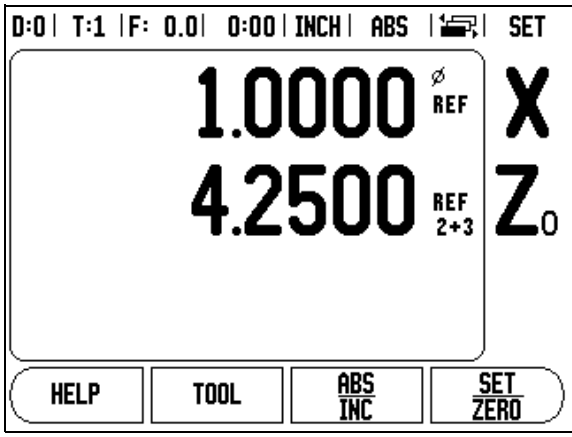

Fig. II.4 Enabling Z Coupling
- Press the numeric keys associated with the encoder input on the back of the unit. Press the **+** or **-** soft keys to couple a second input with the first. The input numbers are displayed next to the axis label indicating that the position is a coupled position (i.e. "2 + 3"). See Fig. II.4.
To couple the Z₀ and Z axis and have the result displayed on the Z₀ display, press and hold the Z₀ key approximately 2 seconds. The sum of the Z positions will be displayed on the Z₀ display and the Z display will be blanked. See Fig. II.4.